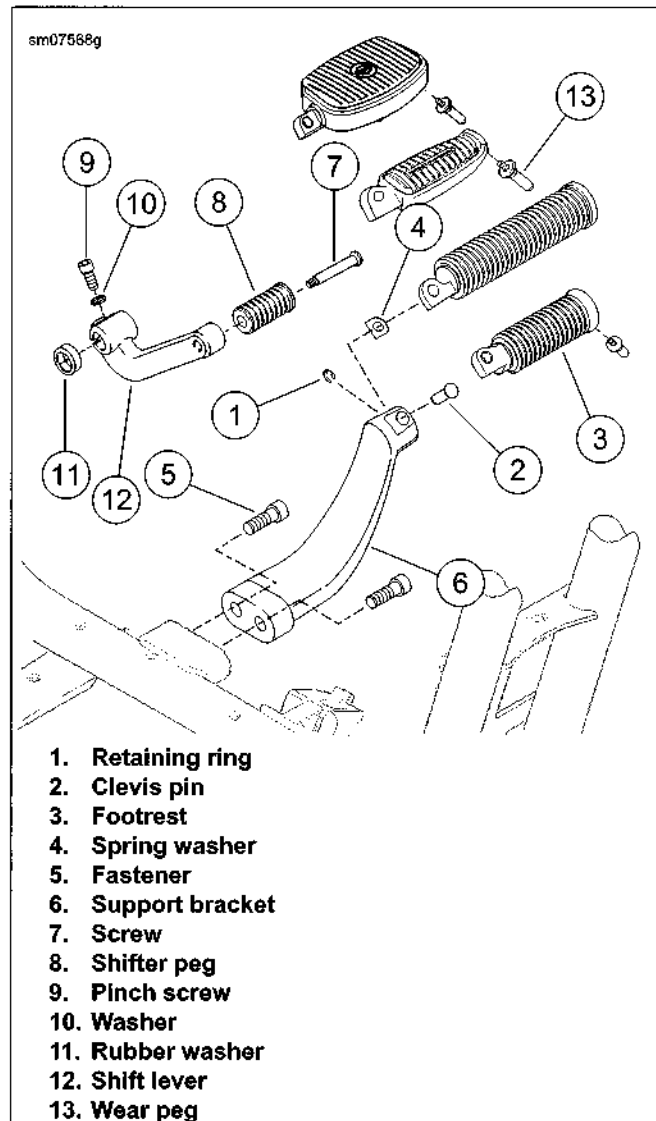

Figure 2-180. Left Footrest and Shift Lever
1. See Figure 2-180. Remove retaining ring (1), clevis pin (2), footrest (3) and spring washer (4). Discard retaining ring.
2. Remove two screws (5) and left rider footrest support bracket (6) from frame.
3. Remove screw (7) and shifter peg (8).
4. Remove pinch screw (9) and washer (10). Remove shift lever (12) and rubber washer (11).